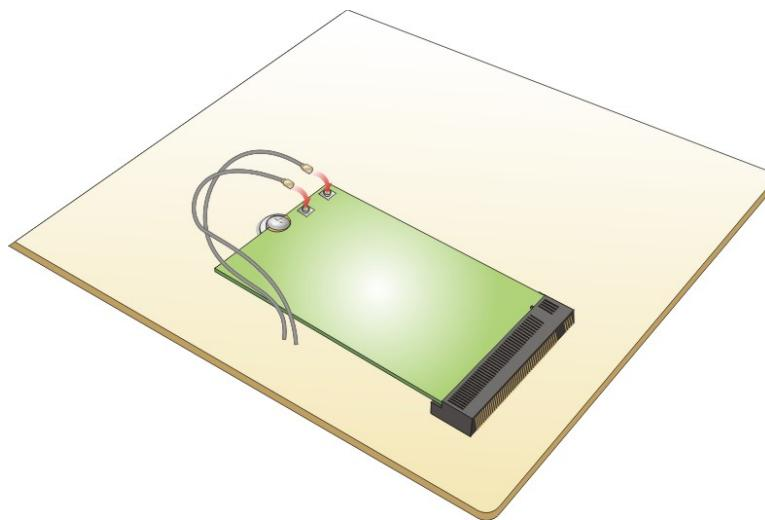

Figure 3-16: Connecting RF Cables
Step 6: Secure the WLAN module with the screw previously removed (**Figure 3-16**).
Step 7: Connect the two RF cables to the antenna connectors on the WLAN module (**Figure 3-16**).